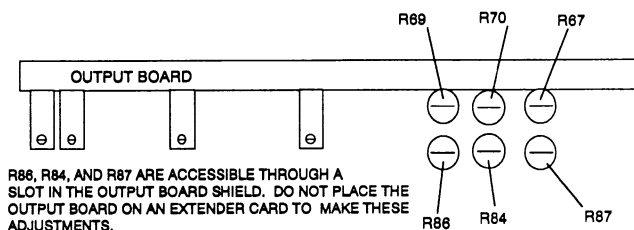

Figure 4-17. R69, R70, R86, R87, R84, and R67 Locator
2. Slide the cover back. Adjust R69, R70, R67, R86, R84, and R87 on the output board (see figure 4-17) for best time symmetry and aberrations. The leading and trailing edge transition time must be less than 8ns. Transition time is measured be-